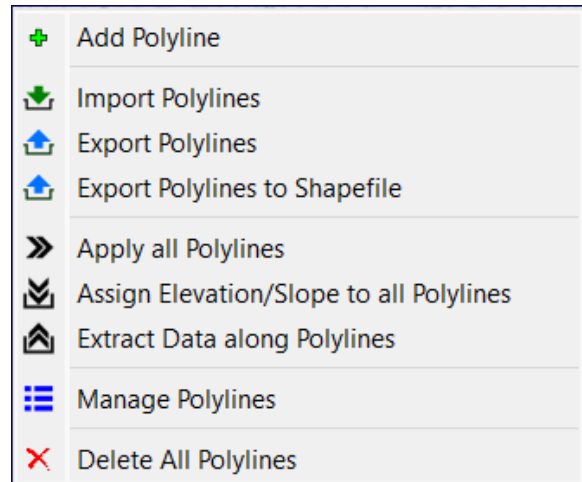

Figure 17. The Polylines Menu
- **Polylines Menu** (Figure 17): The Polylines Menu contains functions that apply to all polylines and can be accessed by right-clicking on the Map Viewer.
1. Polylines Menu (Figure 17)